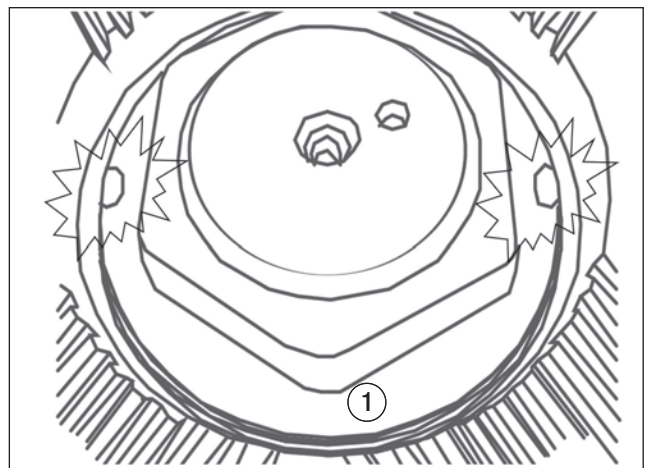

Fig. 4.2
3. With a drilling tool, remove the staking on the pinion lock nut. (fig. 4.2)
4. Block the rotation of the flange (1) using a suitable tool (2).
5. Using a suitable wrench (3), torque multiplier (4) and a suitable service tool slacken the pinion nut.